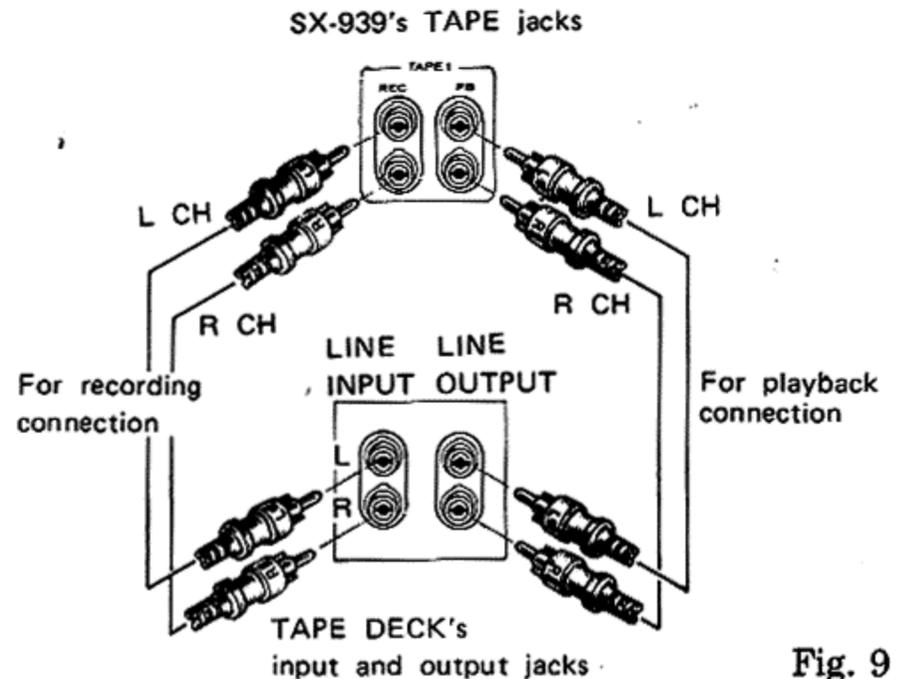

Fig. 9
The provision of two sets of recording output jacks (TAPE 1, 2 REC) and two sets of playback input jacks (TAPE 1, 2 PB) plus a DIN-type recording/playback connector (TAPE 2 REC/PB) means that, in addition to normal recording and playback, two tape decks can be used to record at the same time, or to "dub" or duplicate recordings from one tape deck to the other. Use the connecting cord(s) provided with the tape deck(s) to make the connections (see Fig. 9).
- The receiver output TAPE 1 REC jacks are connected to the recording input jacks (LINE INPUT) of the tape deck as shown in Fig. 9. The upper jacks of each pair are the L (left) channels and the lower are the R (right) channels. When the tape deck is provided with a DIN-type connector for recording and playback, use the optional recording/playback cord (e.g. Pioneer model PP-101) to make the connection with the TAPE 2 REC/PB DIN connector.